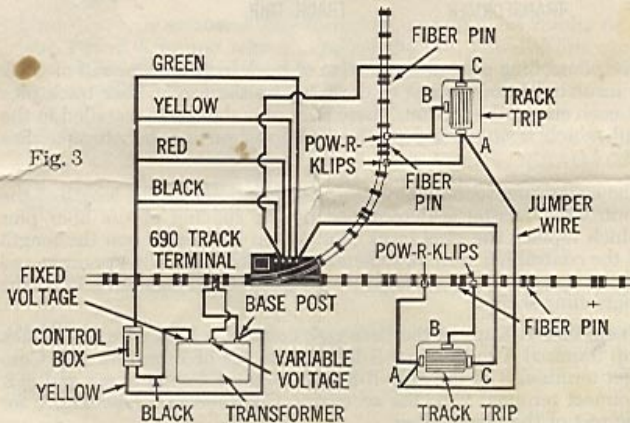

Fig. 3
Track switches can be thrown automatically to prevent derailment by using (2) #26672 Track Trips. Follow Fig. 3 for track connections and wiring. Note that for this application the yellow wire from